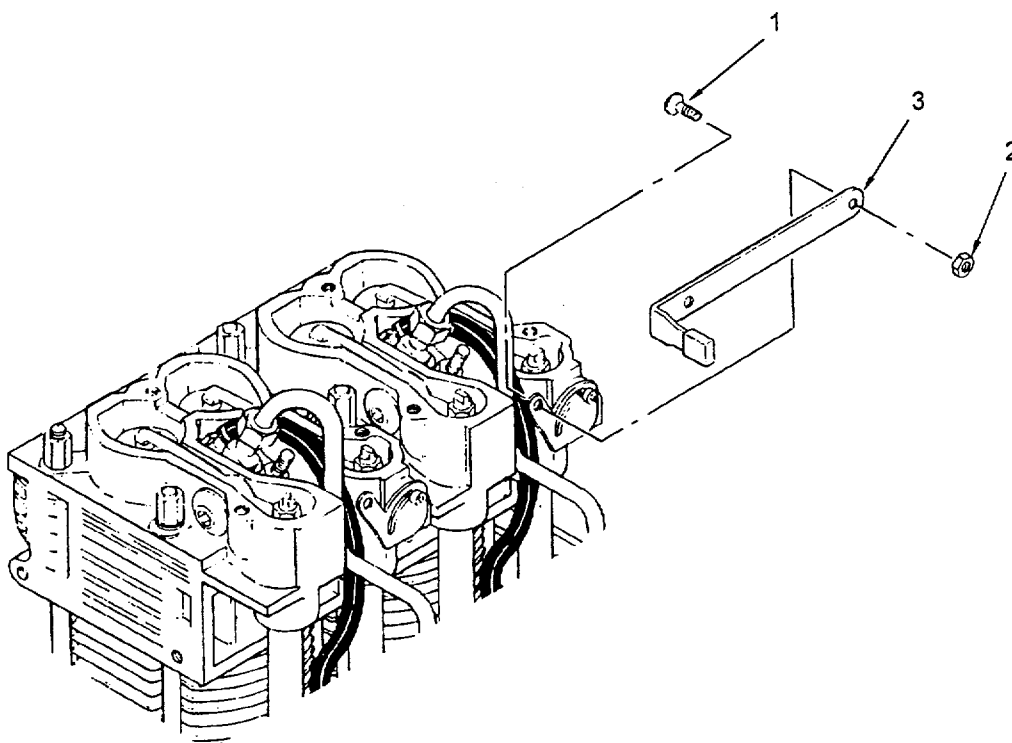

Figure 6-6. Decompression Lever Removal
6.3.7 Remove Decompression Lever. (Refer to figure 6-6.)